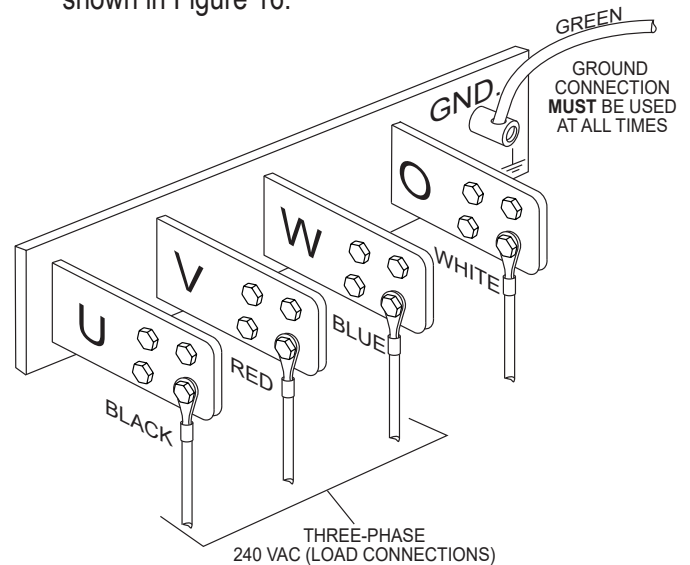

Figure 16. UVWO Terminal Lugs (3-Phase 240-Volt Connections)
2. Connect the load wires to the UVWO terminals as shown in Figure 16.